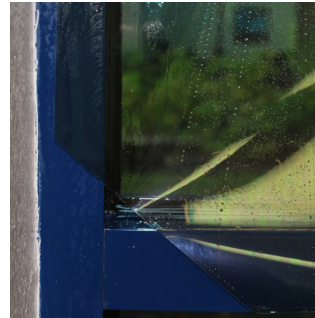
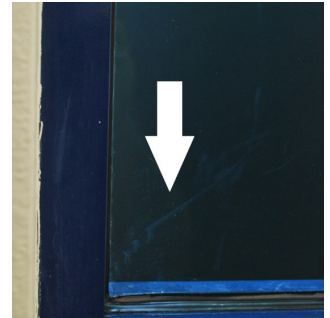

Figure 1
Figure 2
- f. Once the film is tacked to the window, use a utility knife or scissors to cut any overlapping corners at a 45 degree angle (Figure 1). This will prevent kinks or creases when pressing the film into the corners prior to cutting otherwise film may be damaged as seen in Figure 2.